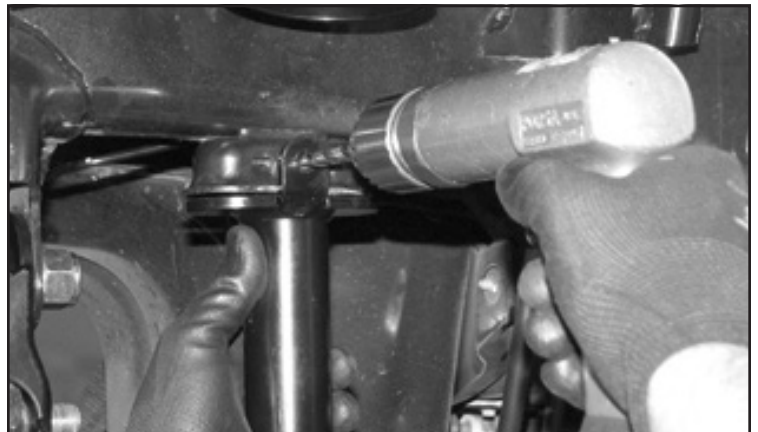

FIGURE 28 - STEP 26
26. Using the outer tab on the bump stop as a drill guide, drill a 5/16" hole all the way through the factory bump stop mount. **SEE FIGURE 28**